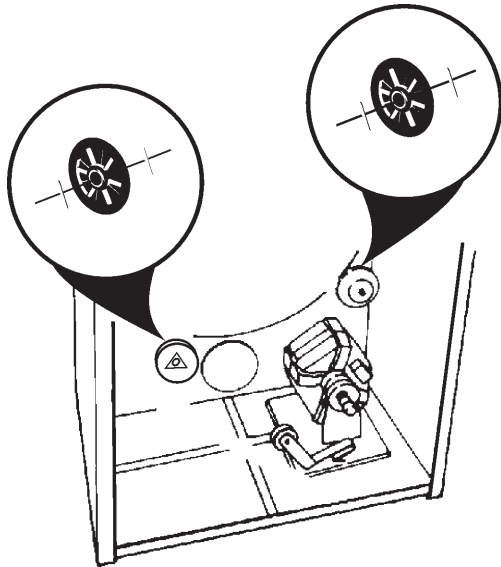

Figure 3
1. Remove triangular rings from roller shaft by using a screwdriver to pry the rings off the shaft. Remove rollers and the remaining triangular rings. See Figure 3.